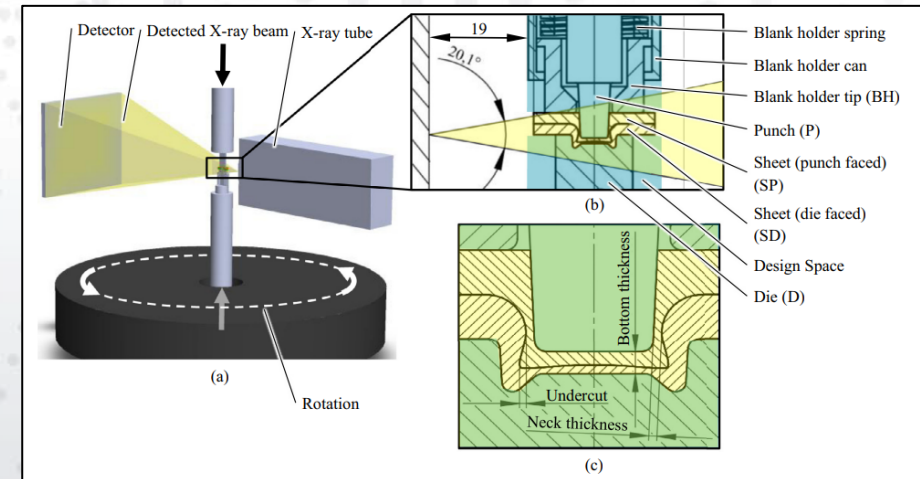

Fig.2: Schematic test set-up for in-situ CT of a clinch joint [1].
- Novel techniques to visualize the joining process, Fig. 2.